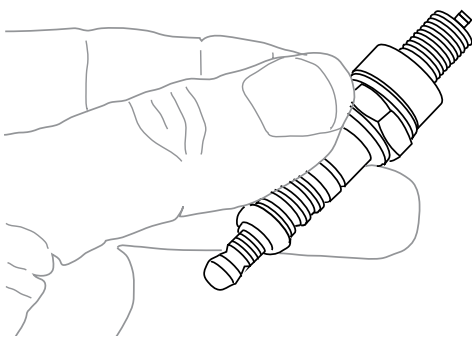

Figure 6
3. When installing a new spark plug, adjust the plug's gap to the specification on the technical specification chart. Do not pry against the electrode or the insulator, the spark plug can be damaged (see Figure 6).